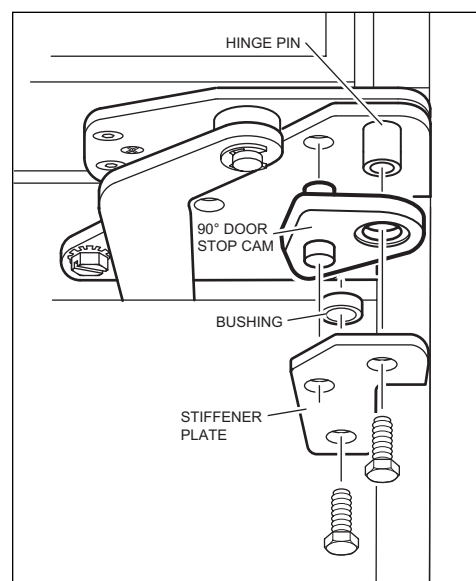

Figure 2-15. 90° Stop Cam
- With door closed, extract bolts, stiffener plate and bushing from lower cabinet hinge (See Figure 2-15).
- Place door stop cam up over hinge pin, making sure stub on cam fits into hole in lower cabinet hinge (See Figure 2-15).
- Reinstall bushing, stiffener plate and bolts onto lower cabinet hinge (See Figure 2-15).